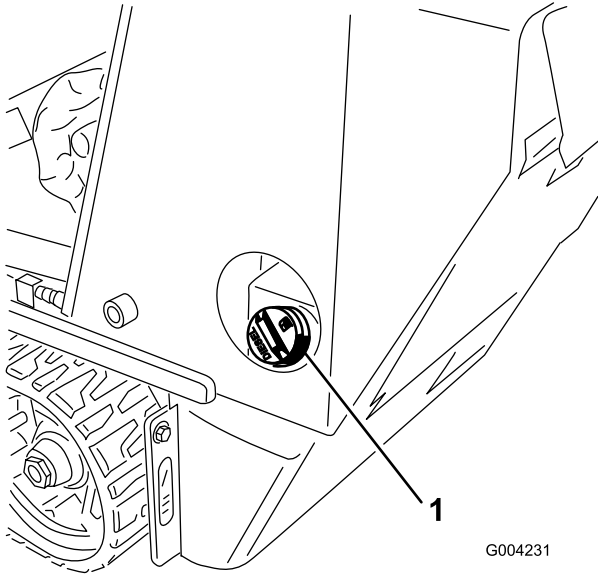

Figure 16
1. Remove the fuel-tank cap (Figure 16).